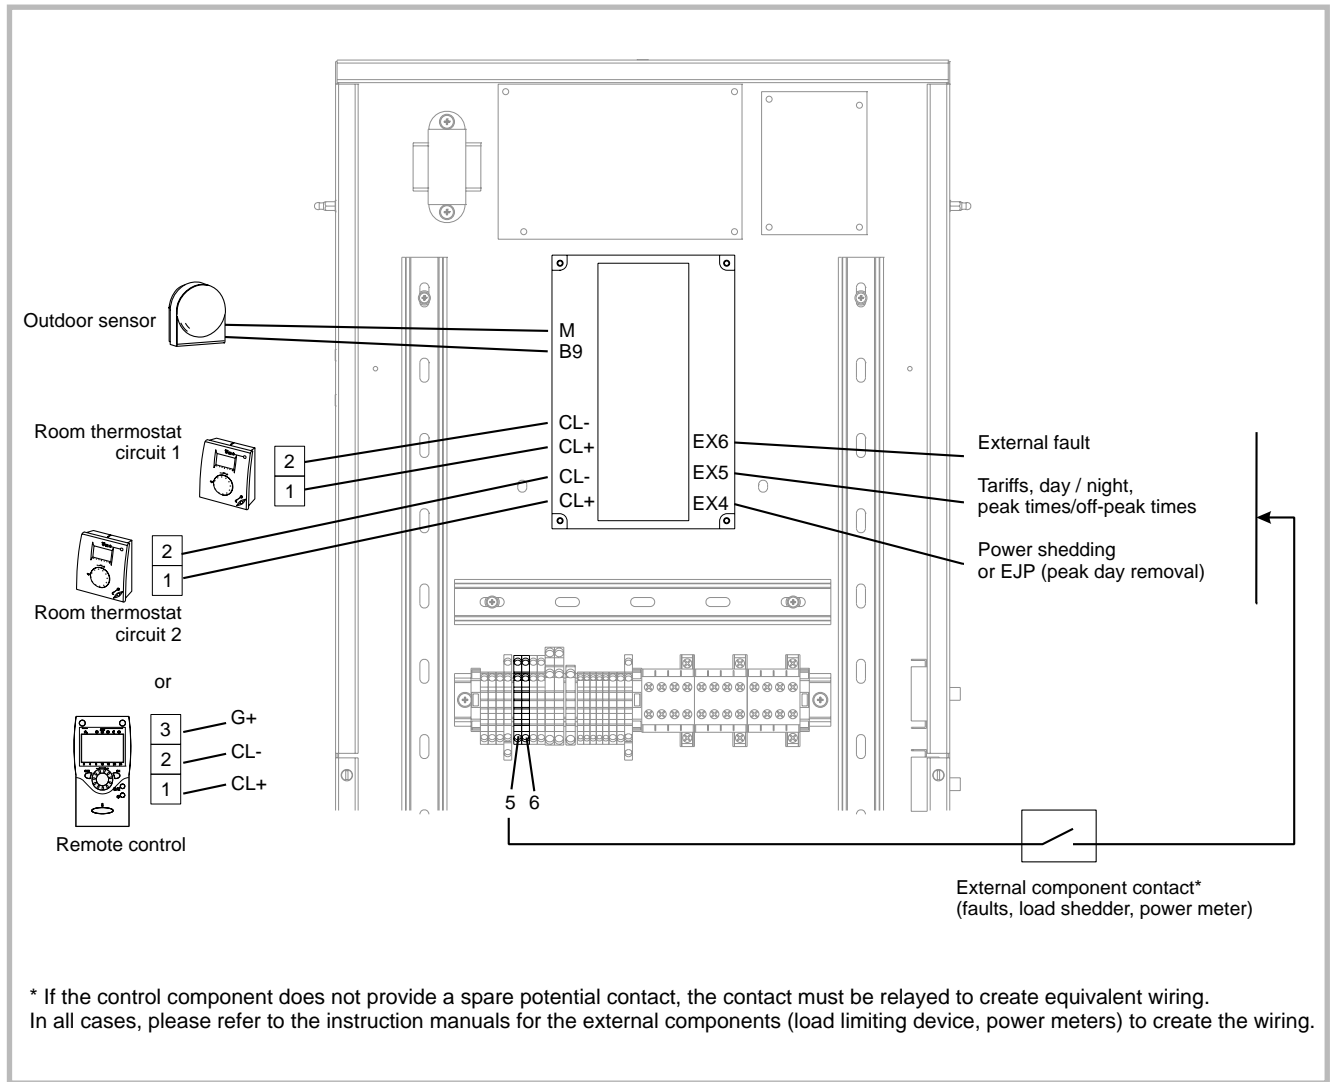

Figure 38 - Connections to the heat pump regulator (accessories and options)
- Connect the outdoor sensor to the M and B9 terminals on the heat pump control board (fig. 38, p. 29).
- Connect each of the sensors to one of the CL+ or CL- terminals on the heat pump control board (fig. 38, p. 29) using the connector supplied.
- Connect the sensor to one of the CL+ or CL- terminals on the heat pump control board (fig. 38, p. 29).